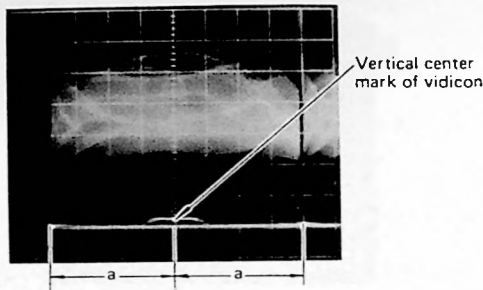

Fig. 4-4-15
- While observing the waveform, adjust V. CENTERING VR109 so that the marker which shows the vertical center of vidicon positions at the center of video signal waveform in vertical rate. (Fig. 4-4-15)